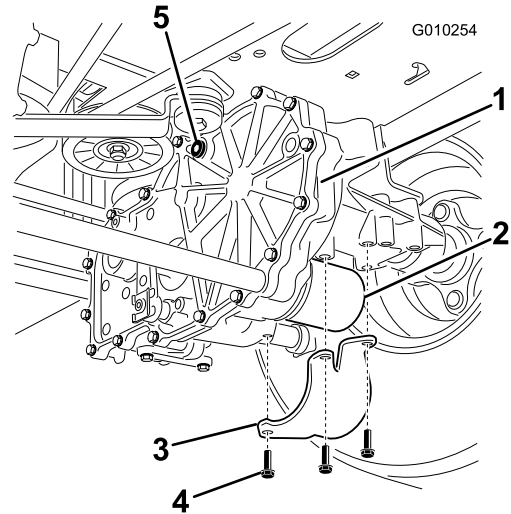

Figure 58
2. Locate the filter and guards on each transaxle drive system and remove the 3 screws securing the filter guard (Figure 58).